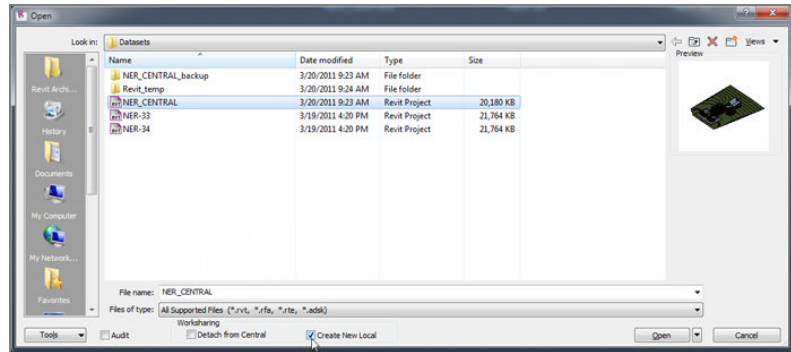

FIGURE 22.11: Creating a new local model
5. At the bottom of the dialog box is a Create New Local check box. Make sure it's selected (see Figure 22.11).